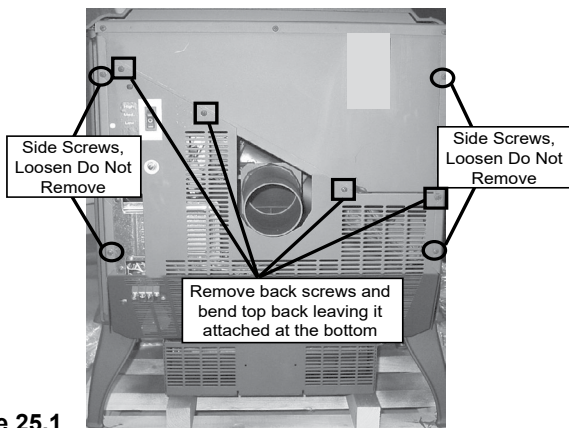

Figure 25.1
- Remove 4 screws from the back screen and pivot the top of the screen toward you leaving the bottom attached to appliance (**Figure 25.1**).